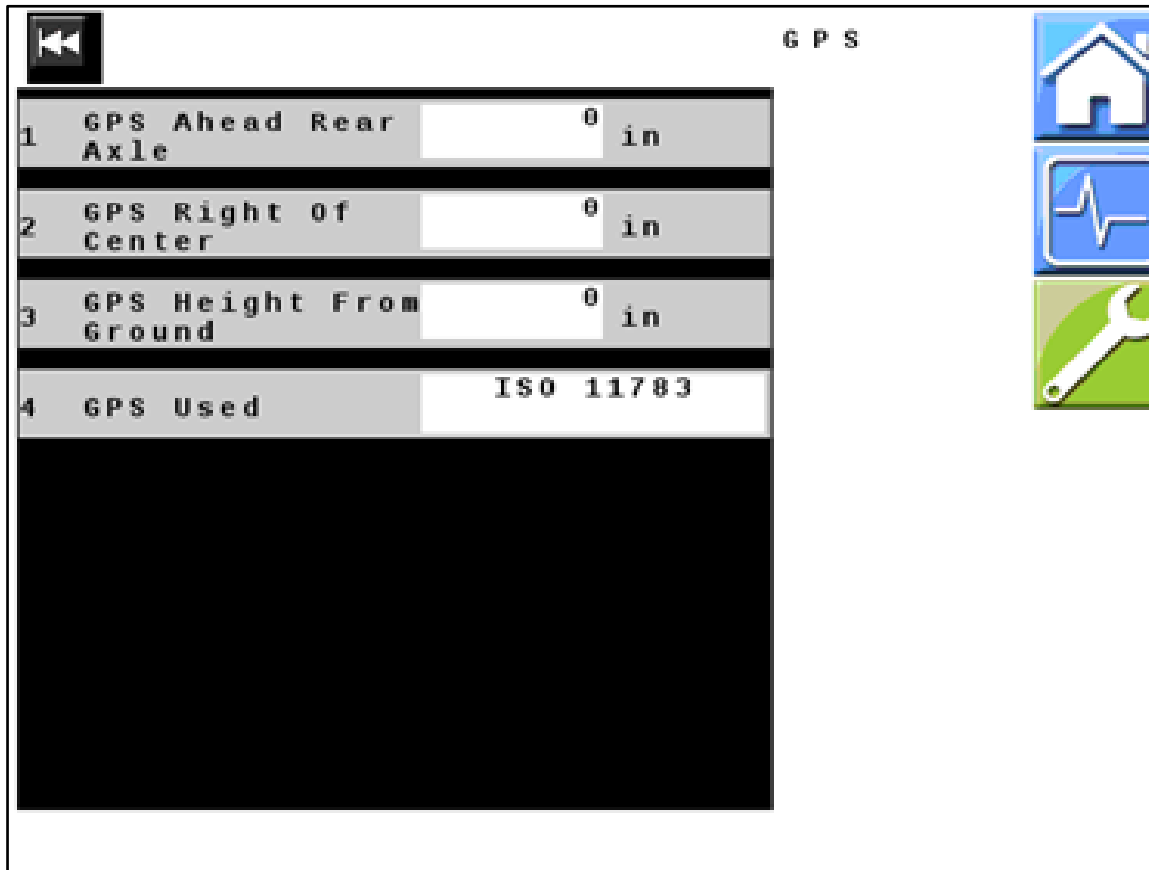

Figure 23 — GPS
40. *Figure 23*: Select the type of GPS from the list of available options. Not all of the options listed here may show on your system. Only the types available for your system will show on your list.